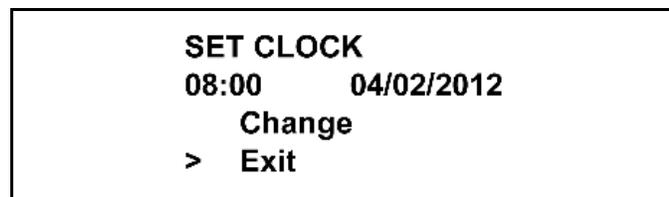

Figure 2-40
3. Press the Calibration key  to select the Change option. (See Figure 2-40.)